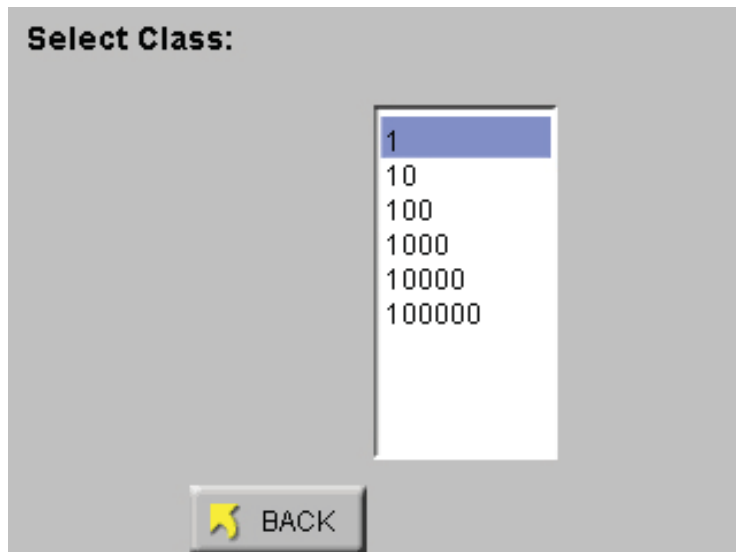

Figure 6-82 Select Class Level
- Press the CLASS button and the Select Class screen displays as shown in Figure 6-82.